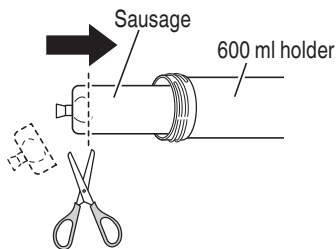

Fig. 21
- (2) Place the sausage in the 600 ml holder and cut the closed-off portion at the tip. (Fig. 21)